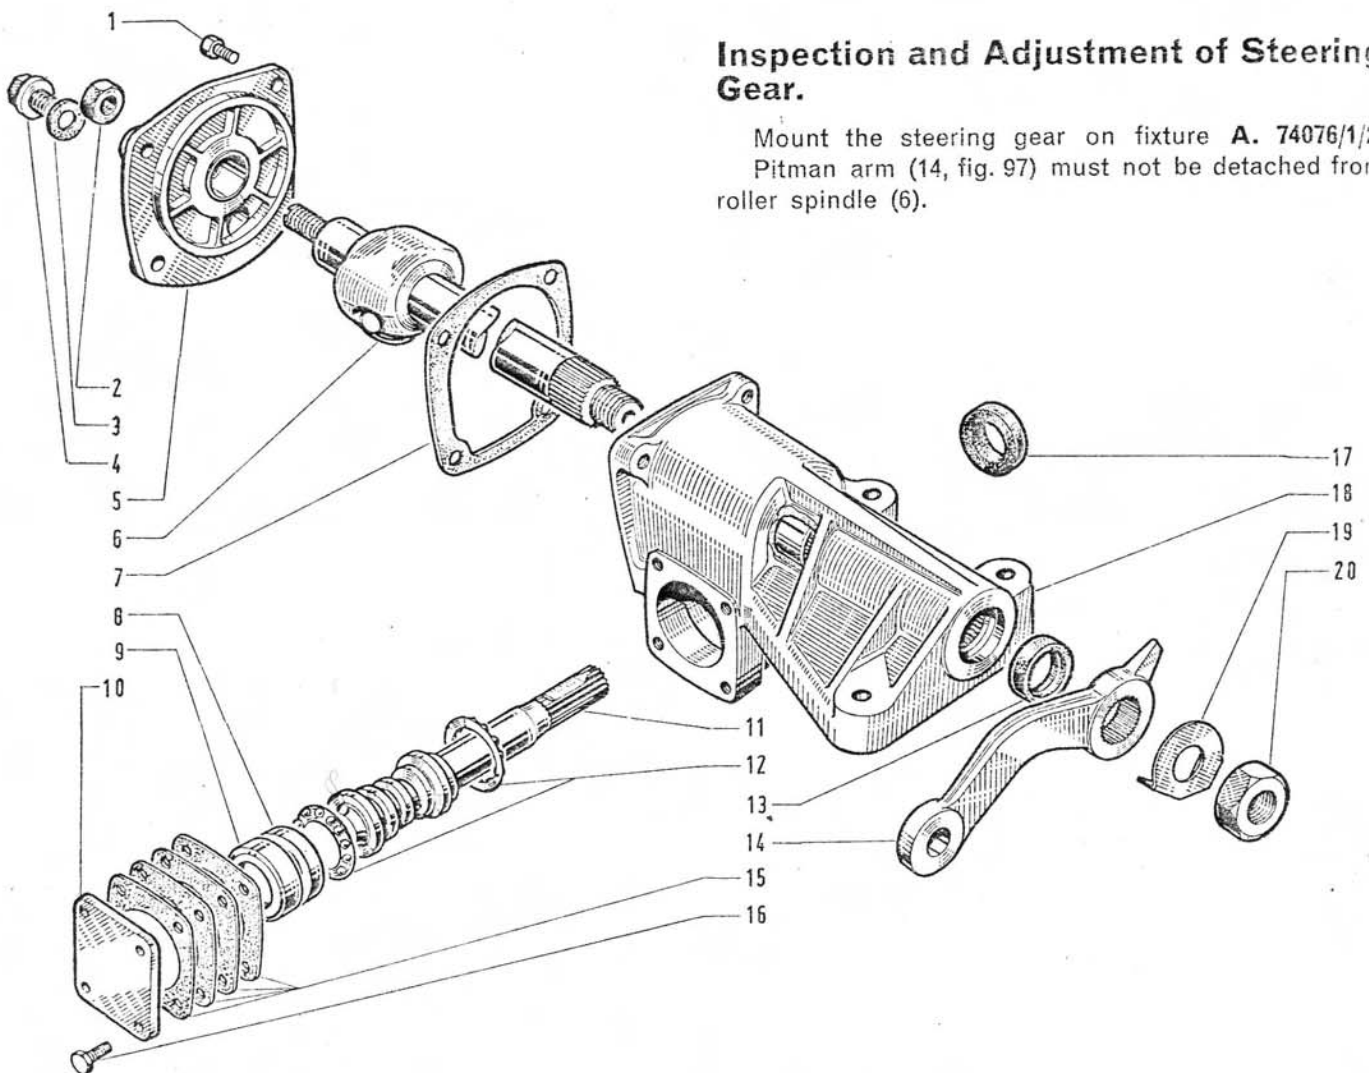

Fig. 97. - Exploded view of the steering gear.
Pitman arm (14, fig. 97) must not be detached from roller spindle (6).
— hold the adjusting screw with the screw driver and unscrew locknut (2, fig. 97);
Drain off the oil from the housing by removing plug (4, fig. 97).
Take out the cover fixing screws (1, fig. 97) and locknut (2).